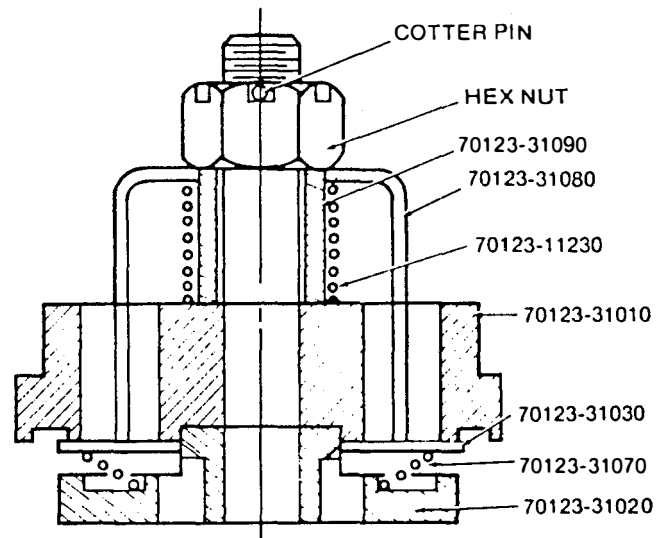

Figure 4
MODELS E-50, E-71 AND E-15 (Figures 4 and 5)
A. Disassembly of Inlet Valve Assembly (Figure 4)